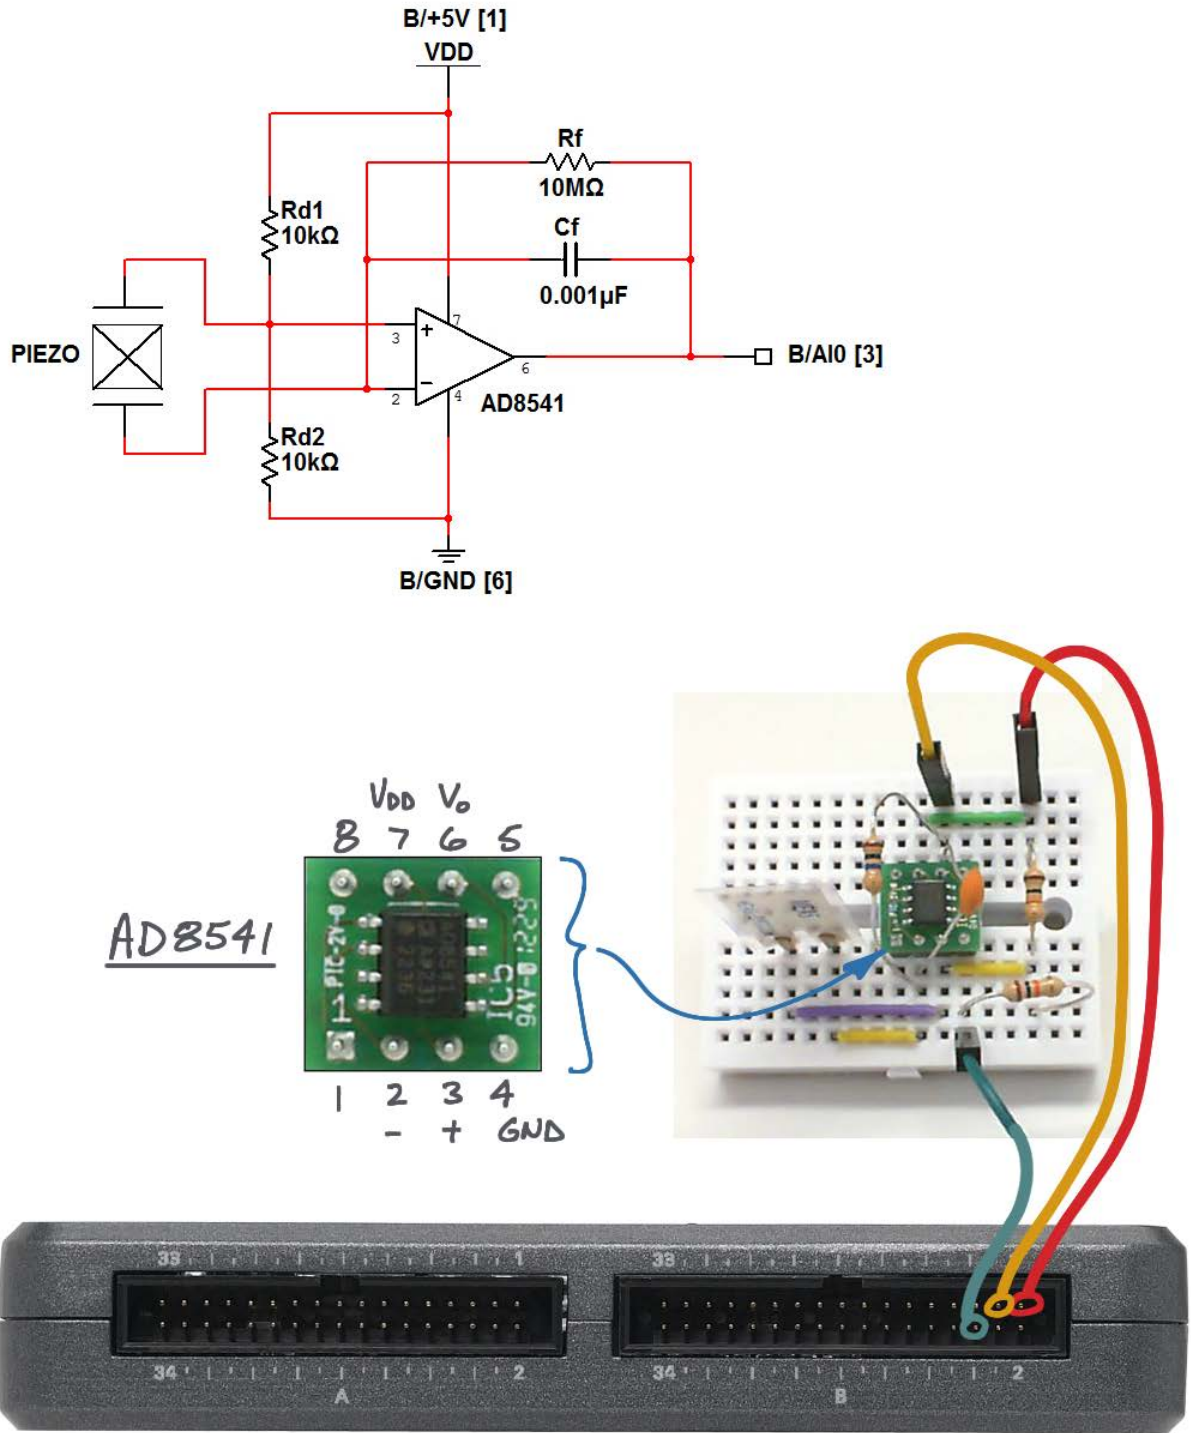

Figure 16.2: Demonstration circuit for piezo sensor: schematic diagram, recommended breadboard layout, and connection to NI myRIO MXP Connector B.
**Build the interface circuit:** Refer to the schematic diagram and recommended breadboard layout shown in Figure 16.2 on the following page. The piezo sensor interface circuit requires three connections to NI myRIO MXP Connector B (see Figure A.1 on page 233):